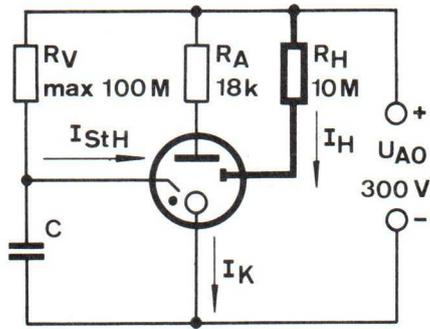

Fig. 3
The main range of applications covers timing circuits and circuits for the industrial electronics. Because of its high anode breakdown voltage (over 400 V), the GR 46 tube may be connected directly and without a transformer to a rectified and smoothed 220 V a.c. supply. Other remarkable features of this tube are its excellent starter breakdown voltage stability (typically  $\pm 1\%$ ), minimal control current (less than  $10^{-3} \mu\text{amp}$ ), unaffected by temperature fluctuations, and the wide temperature range in which it can operate. The GR 46 is so designed that the anode circuit can be supplied with direct voltage, and operation is assured with a positive starter. The starter striking voltage reaches its highest stability only if there is no negative starter current  $I_{St}$  (see Fig. 3 and 4).
3) The auxiliary anode (H) is connected if extremely short ignition times are needed (Fig. 3).